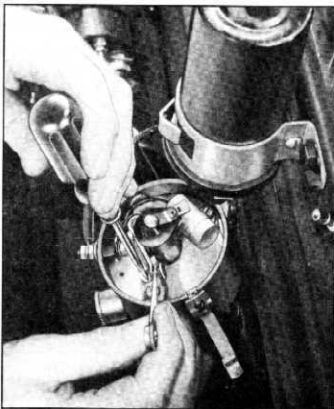

Fig. 50—Adjusting Distributor Points
8. Crank the engine until the distributor point cam follower is on the extreme peak of a lobe on the cam which will provide maximum breaker point opening. Turn the eccentric adjusting screw (fig. 50) to right or left to obtain the correct point opening.
- Turn the eccentric adjusting screw (fig. 50) to the right or left to obtain .018"-.022" point opening (.022" to .024" if new points are being used) on 1949-52 models and .019" for new points and .016" for used points on 1953 models.